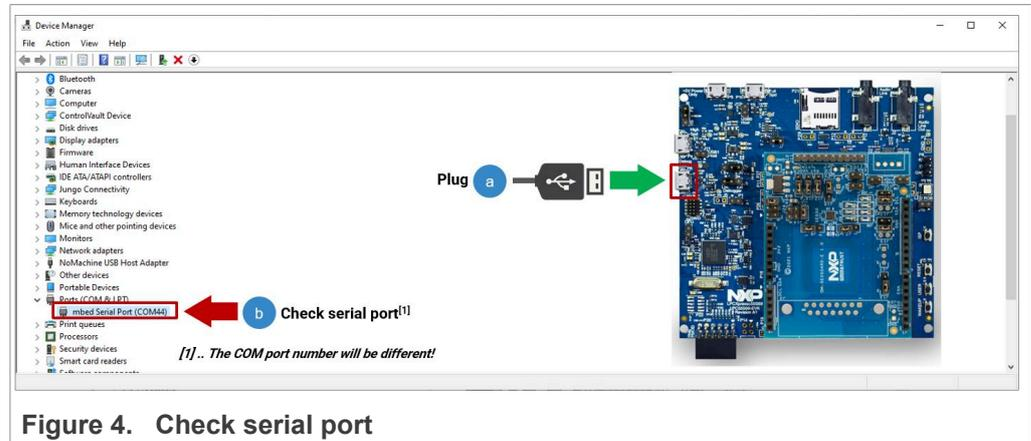

Figure 4. Check serial port
5. Check that your laptop recognizes the LPC55S69 board following the steps indicated in Figure 4